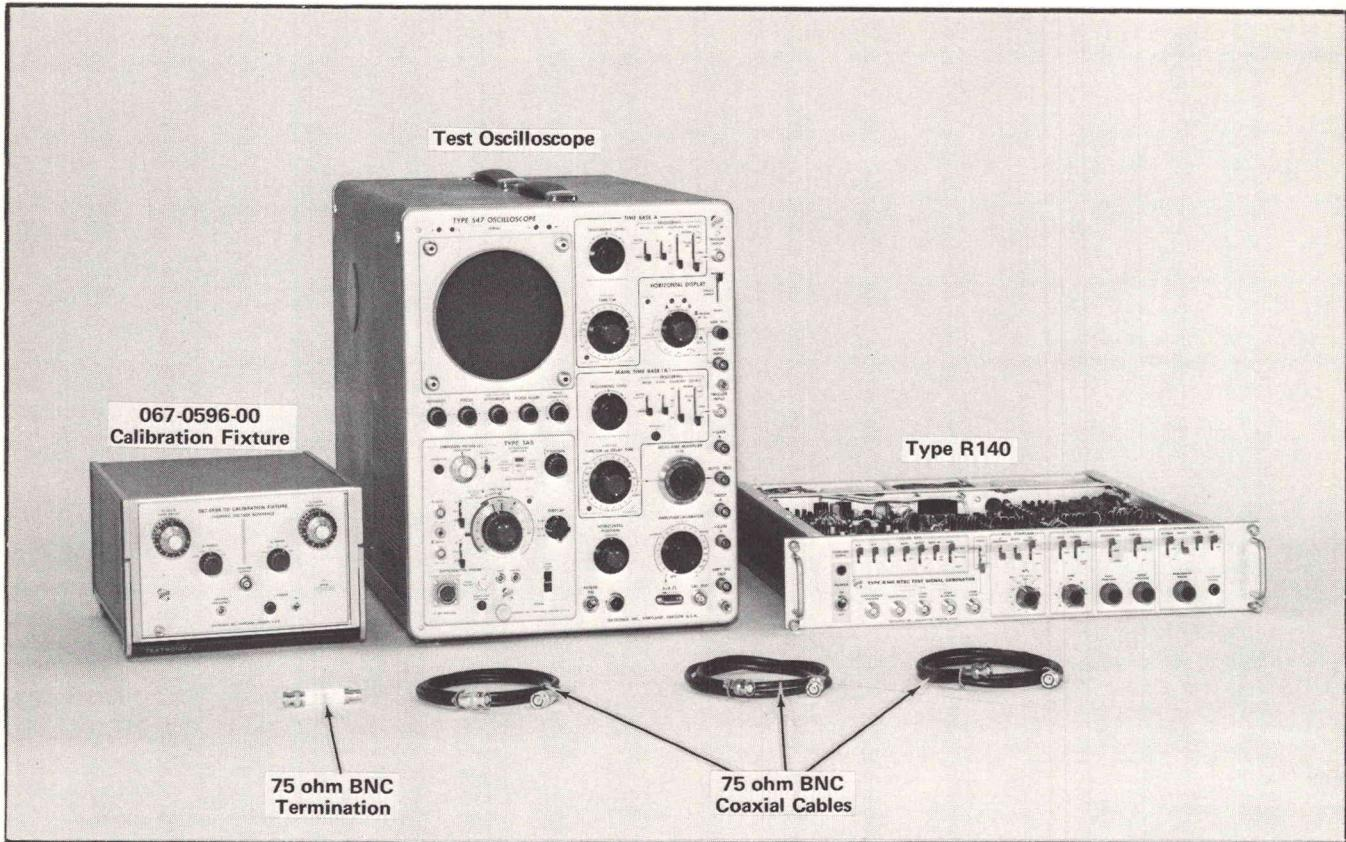

Fig. 5-6. Test equipment required for steps 7 through 11.
①
a. Test equipment is shown in Fig. 5-6.